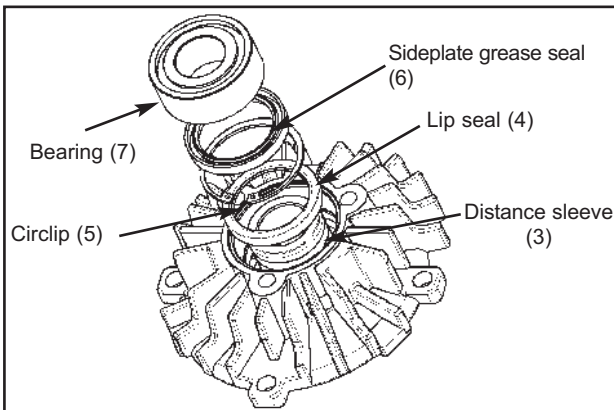

Figure 17
3. Slide bearing (7) from sideplate. The bearing is a slip fit.
4. Remove distance sleeve (3) and tap out grease seal (6) from sideplate. Remove circlip (5) ; See figure 17.